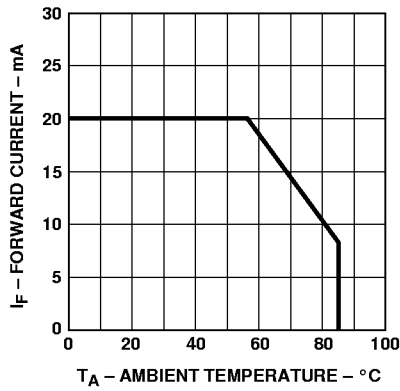

Figure 4. Maximum DC Current vs. Ambient Temperature.
1. Derate Linearly as shown in Figure 4.